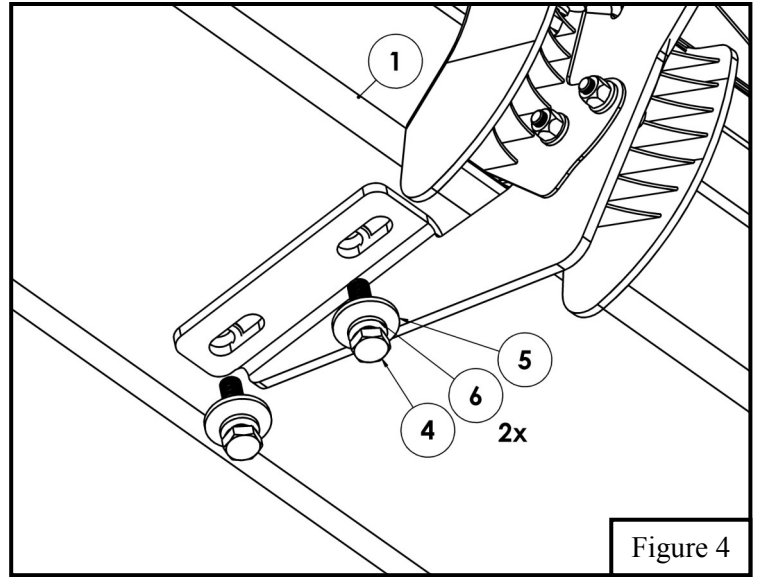

Figure 4
7. Loosely install the Step Bar Assembly (Item 1) to the previously install mounting brackets with the supplied M8 hardware. See **Figure 4**.